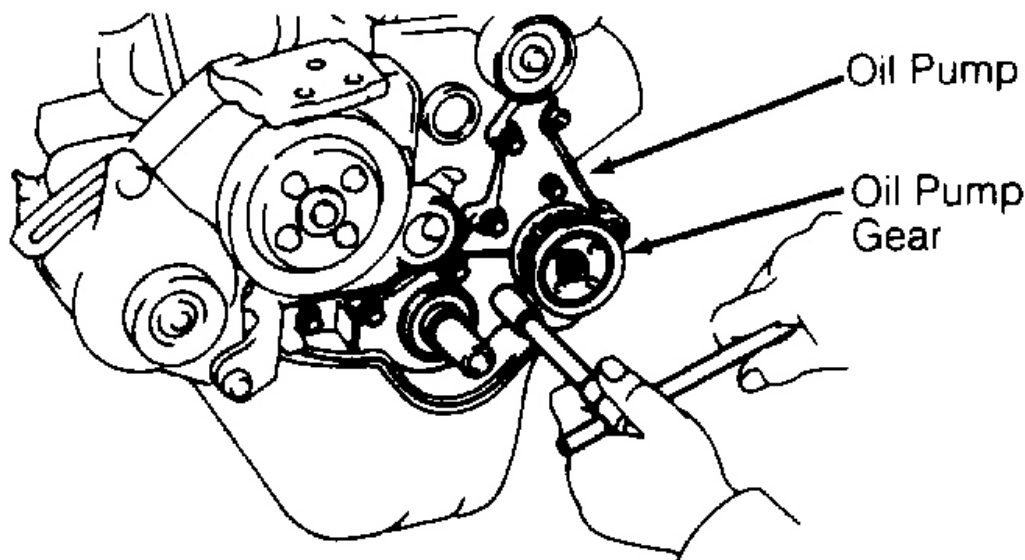

Fig. 21: Removing Oil Pump Assembly
2. Remove pulley tension spring bracket. Remove oil pump bolts attaching oil pump body to front of engine block. Remove oil pump body and "O" ring. See **Fig. 21** . To install, reverse removal